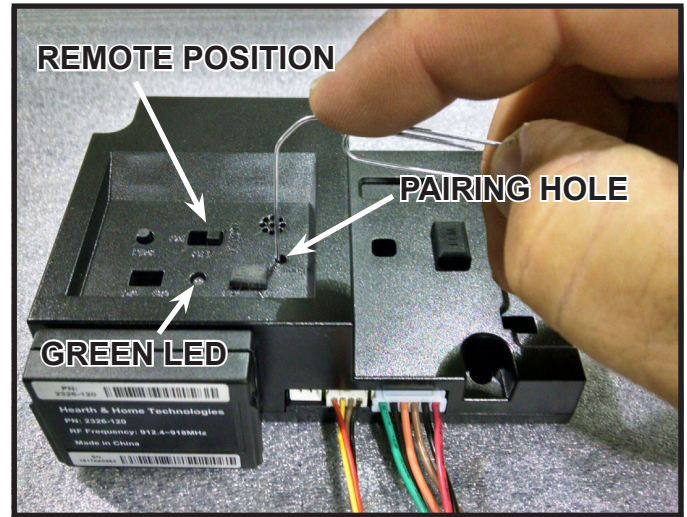

Figure 4.11 Pairing IFT-ECM
2. Locate the pairing hole on the IFT-ECM. See Figure 4.11. Using a paper clip or similar item, press and release the pairing button. The IFT-ECM will “beep” once and the green LED will blink for 14 seconds. During the 14 seconds, it is normal for installed accessories such as lights, fan, and Power Vent to energize momentarily.